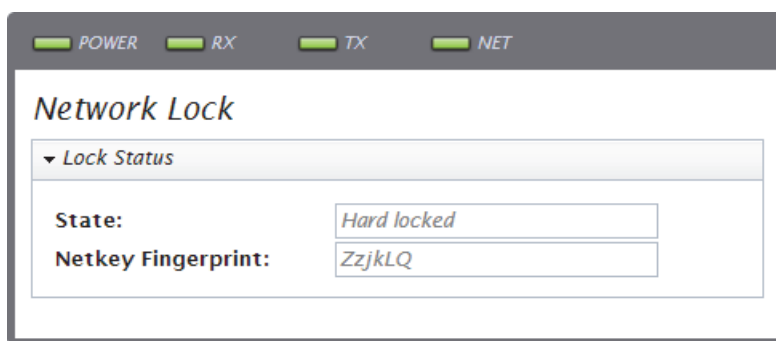

Figure A-21. Lock Status
9. Click Confirm. A window opens showing the lock status of the satellite router. See Figure A-21.